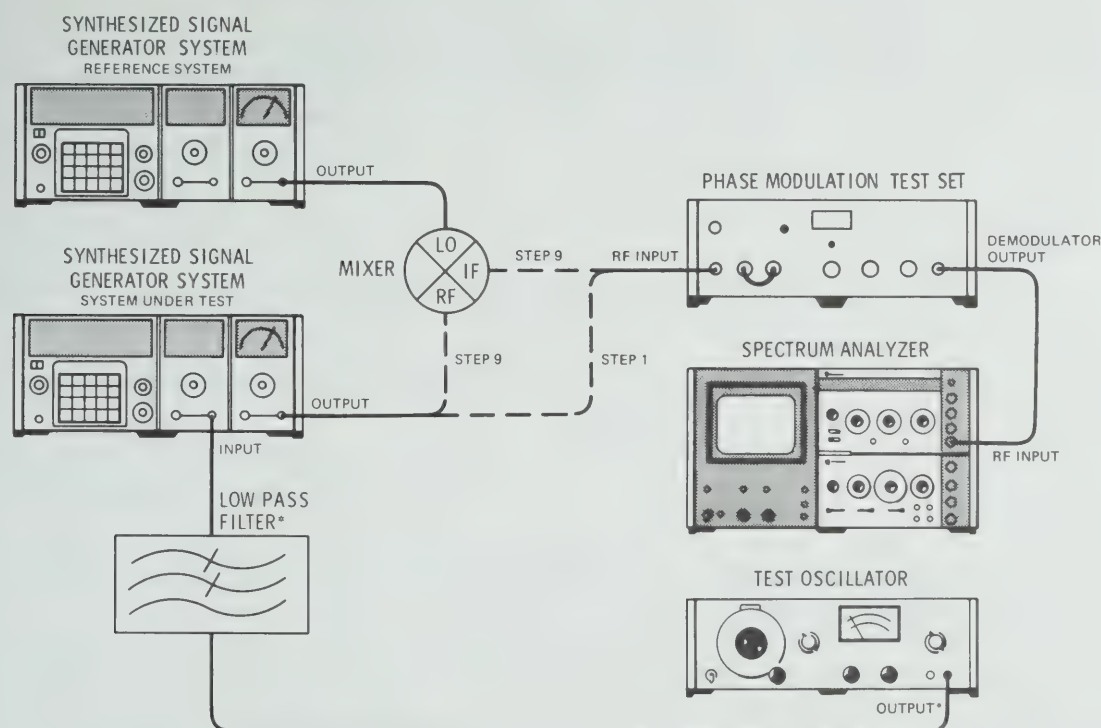

Figure 4-17B. Phase Modulation Distortion Test Setup (Alternate Procedure)
*In Figure 4-17B the test oscillator output impedance and Low Pass Filter impedance is 50 ohms when the modulation section is a Model 86634A and 600 ohms with a Model 86635A.
1. Set the Test Oscillator to 1 MHz, connect a 1 MHz low pass filter (50 ohm for 86634A, 600 ohm for 86635A) to appropriate test oscillator output and adjust for 1.7 Vrms output. Connect the rest of the equipment as shown in Figure 4-17B.